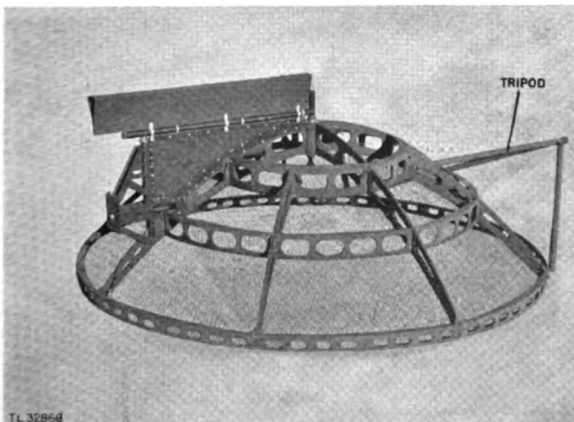

Figure 15. Parabolic reflector assembled without dipole.
g. Attach the top tripod and guy wire assembly to the proper rib of the parabolic reflector. Note that in figure 15 this assembly is fastened on the far side of the parabolic reflector away from the transmission line. Be sure that all bolts and wing nuts are tight on the top tripod assembly.